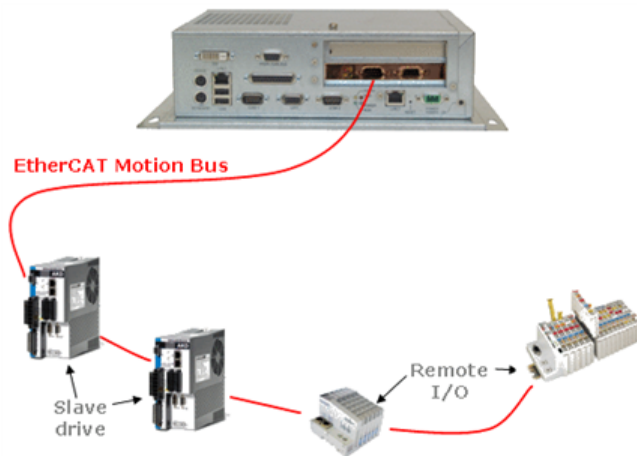

Figure 4-12: EtherCAT Network - Physical View
- Discover the devices physically present in the fieldbus network (see "Figure 4-12: EtherCAT Network - Physical View " on page 199)